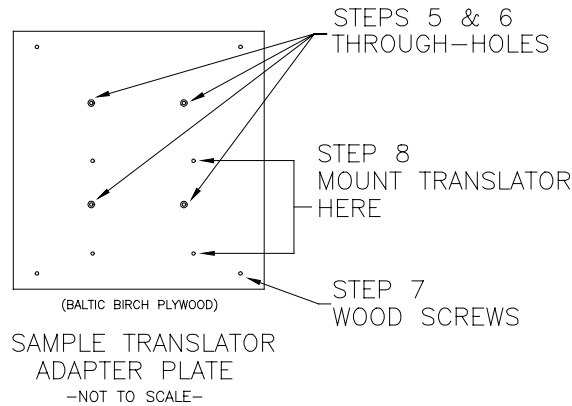

Figure 2a. Sample Translator Adapter Plate.
1. Refer to **Figure 2a** and **2b** to reposition the sample translator. You must use the adapter plate supplied with the installation package. Before continuing, be sure you have the 37.6 cm x 38.6 cm x 3.2 cm (14.8" x 15.2" x 1.25") wooden plate that mounts over the existing translator mounting board. The hardware for installing this plate is found in a bag labeled *Sample Translator Adapter Plate Hardware*.
5. Place the four silver 8-32 x 1" flat head screws provided with the adapter plate into the four through-holes indicated in **Figure 2a** to align the adapter plate with the mounting board behind it. Shift the adapter plate so that the screws all go in straight.
7. Screw the four black wood screws provided with the adapter plate into the holes in the corners of the plate and into the side of the cabinet (**Figure 2a**).
8. Remount the sample translator to the four holes indicated in **Figure 2a** by using the four screws and lock washers that previously held the sample translator. Position the